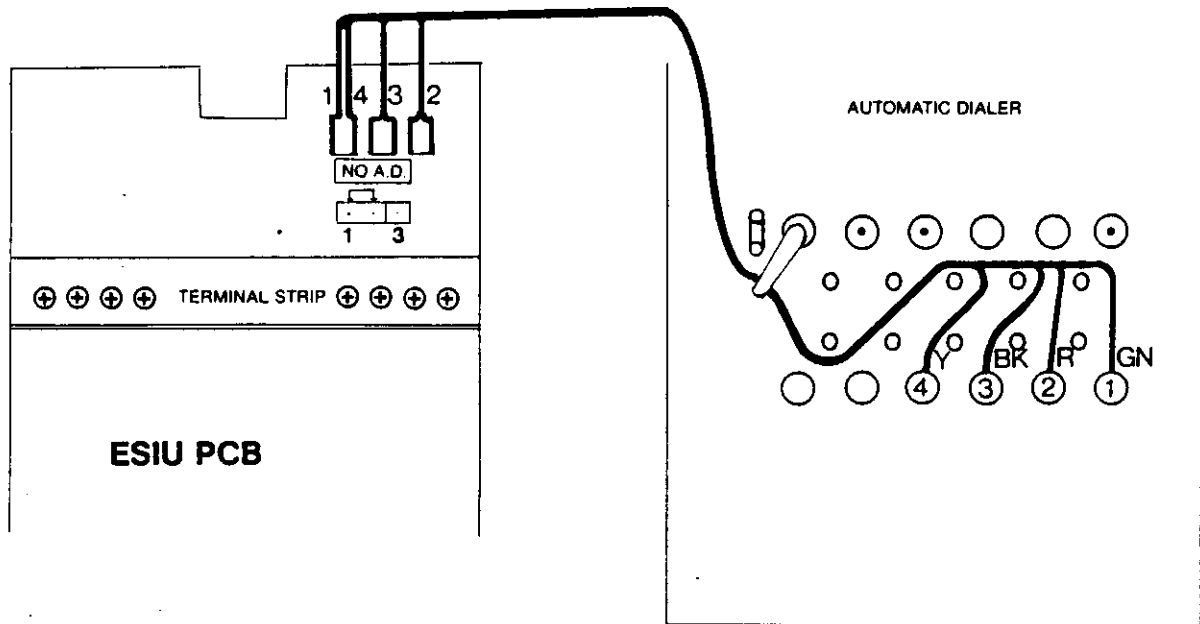

FIGURE 9 — AUTOMATIC DIALER CONNECTIONS FOR FOUR WIRE REPLACEMENT CABLE
4.2.5 Connect the end of the AD connector cable, without the nylon eyelet, to the AD terminals as follows (see **Figure 9**):
- Green wire to terminal (1)
- Red wire to terminal (2)
- Black wire to terminal (3)
- Yellow wire to terminal (4).
4.2.7 Connect the AD spade-tip connectors to the terminals located on the rear right-hand corner of the ESIU PCB as follows (see **Figure 9**):
- Yellow wire to terminal (4)
- Red wire to terminal (2).
5.1 On the ESIU PCB, directly below the AD terminals, are three pins labeled "NO A.D." These pins are to be strapped as follows (see **Figure 9**):